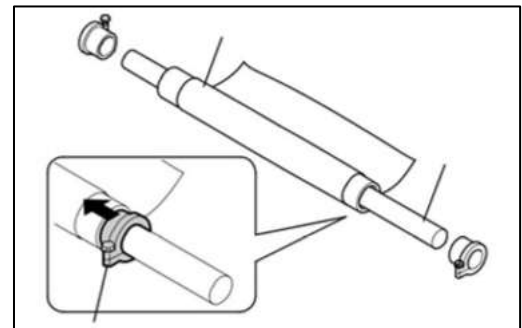

Fig 16: Inserting the Fabric Roll into to Supply Core
Step 1: Keep the well pressed and pre-treated fabric roll wound into the empty core of diameter 65-70mm (Refer to Fig 16).
Step 2: Insert the supply roller into the core of the fabric roll (Refer to Fig 16).